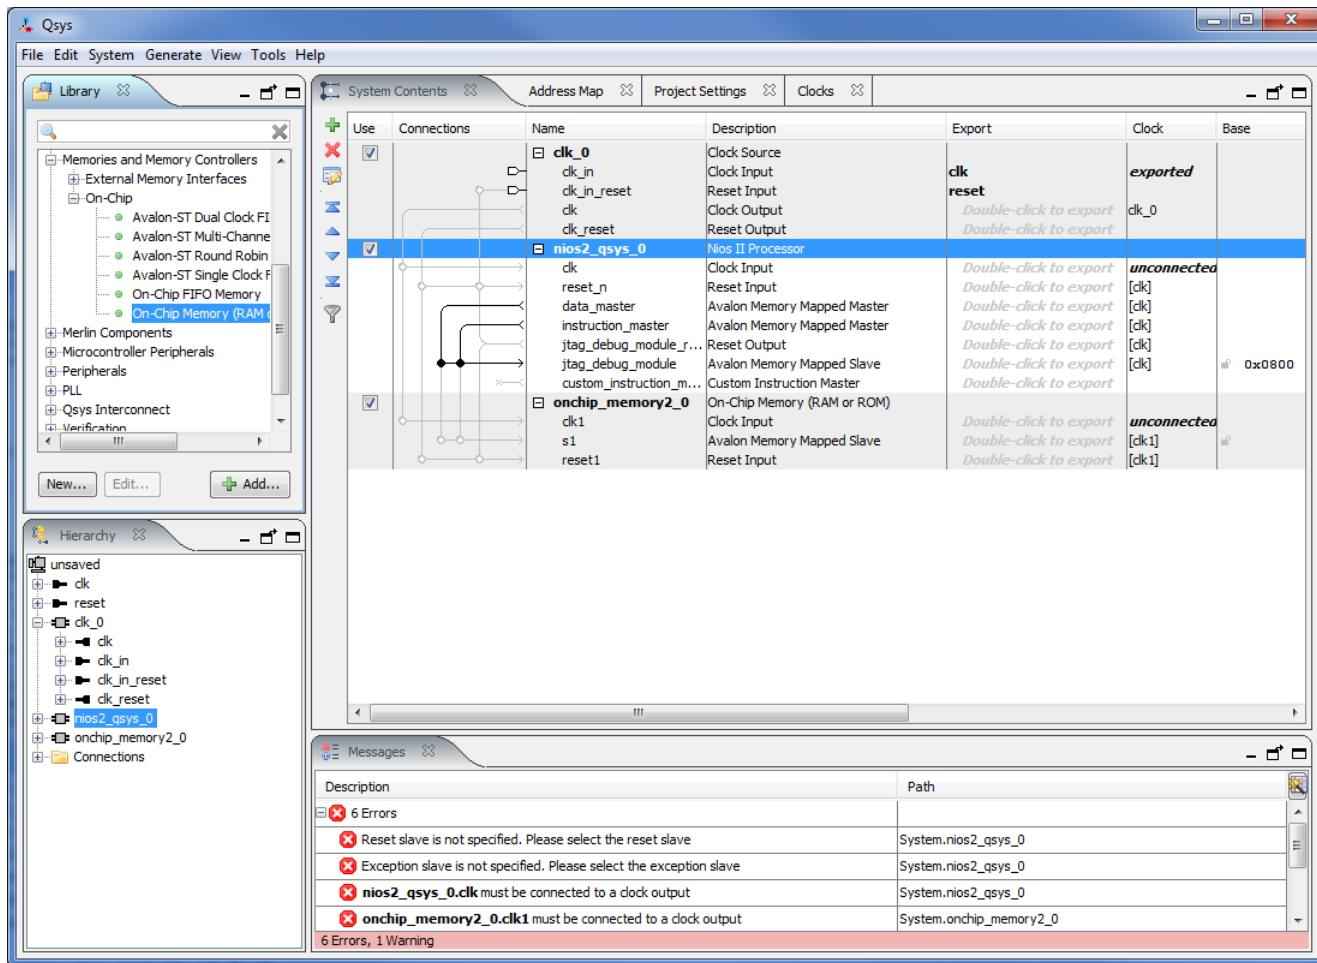

Figure 9. The on-chip memory included on a DE-series board.
- Click **Finish**, which returns to the System Contents tab as indicated in Figure 9
6. Observe that while the Nios II processor and the on-chip memory have been included in the design, no connections between these components have been established. To specify the desired connections, examine the **Connections** area in the window in Figure 9. The connections already made are indicated by filled circles and the other possible connections by empty circles, as indicated in Figure 10.